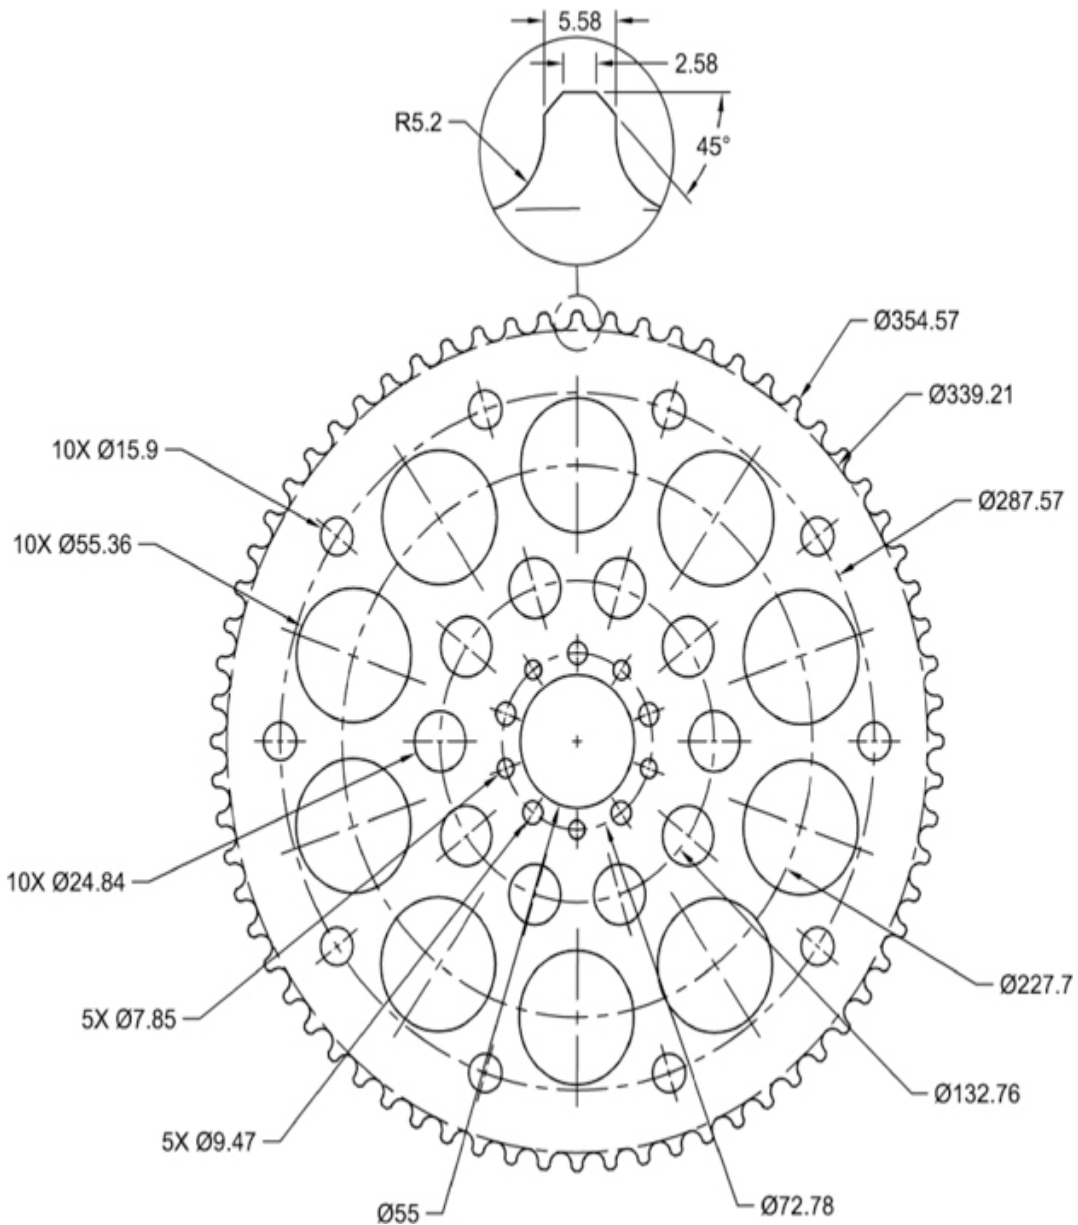

Figure 8-46
3. Draw the sprocket as shown in Figure 8-46 using the appropriate layers. *Hint:* Draw one sprocket tooth as indicated in the enlarged detail shown at top, and array it using the **ARRAY** command with the **Polar** option. You can use the same technique to create the holes.